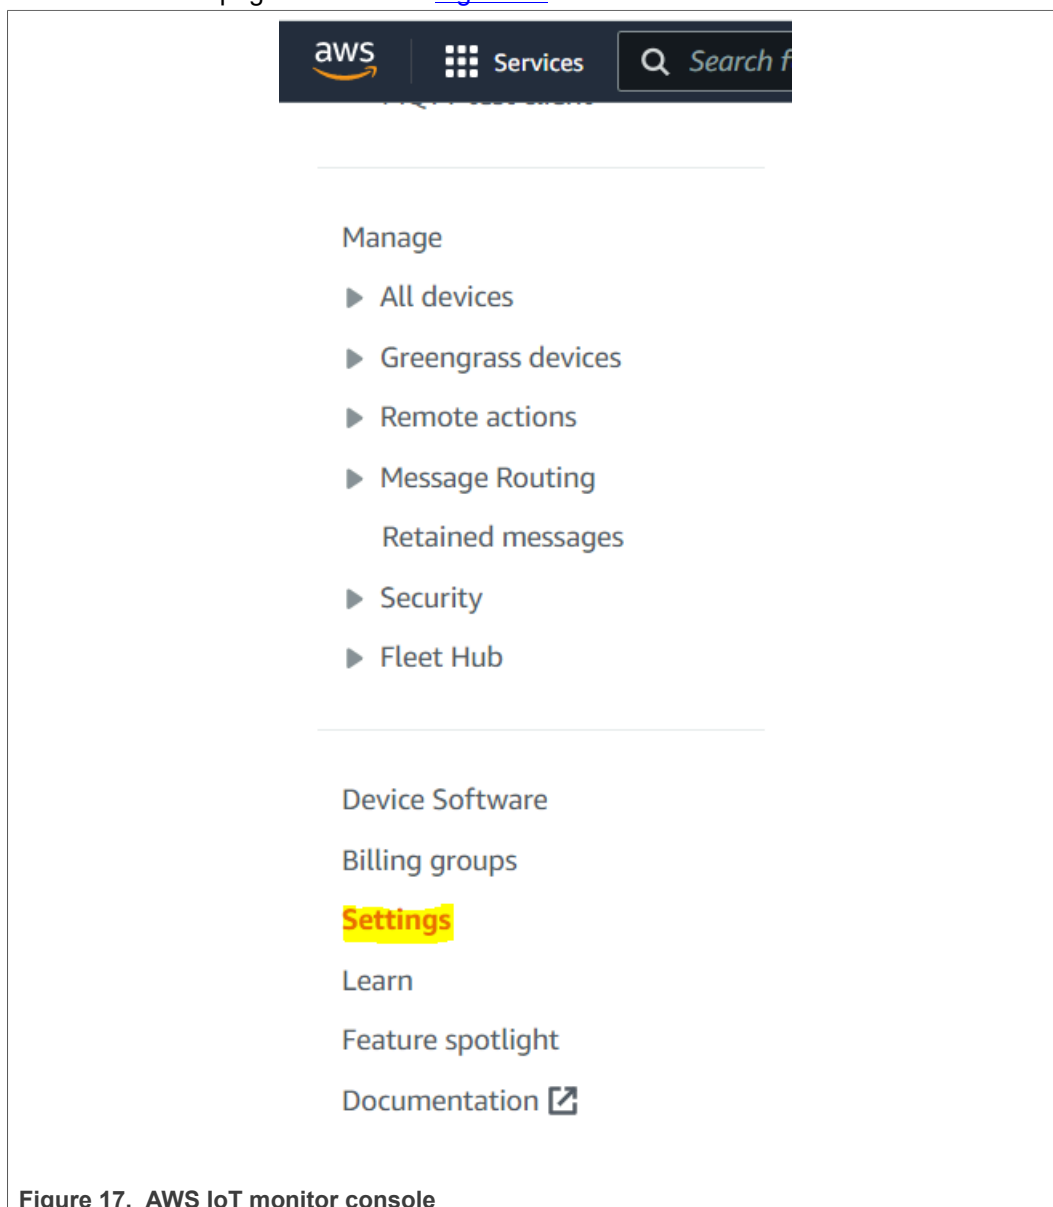

Figure 17. AWS IoT monitor console
3. Within the AWS IoT Console, select the **Settings** button down toward the bottom left section of the page as shown in Figure 17 below.